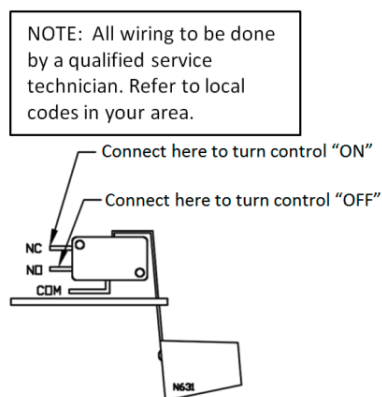

Figure 3
- c. There are two options for connecting the auxiliary high level switch, with switch terminals marked NO and NC (Figure 3).
- b. Support the switch and carefully change the upper lead wire from terminal marked "NO" to terminal marked "NC" (Figure 3).